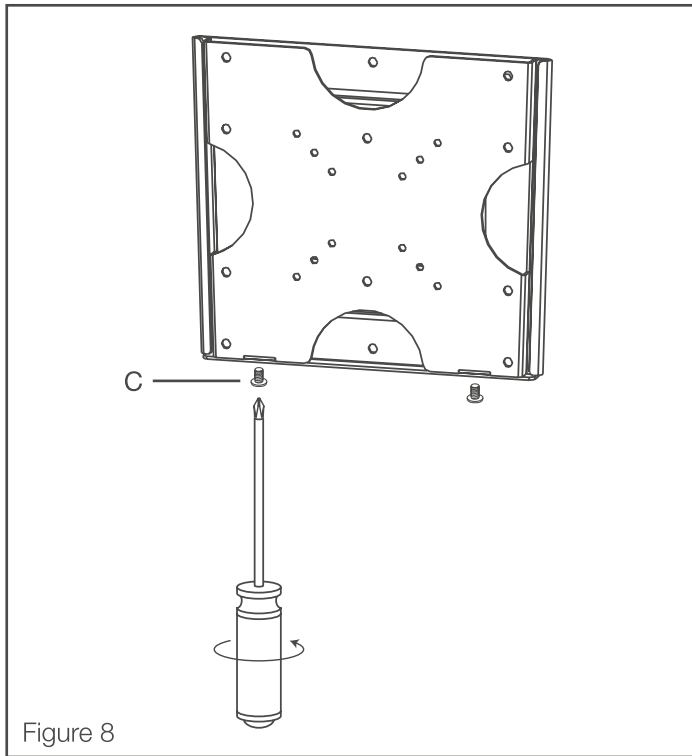

Figure 8
2. Insert 2 M4 x 12mm bolts (C) into the bottom of the TV Wall Mount and tighten (see Figure 8).